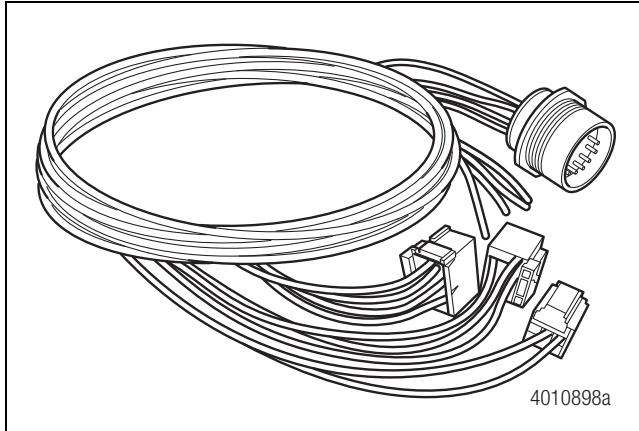
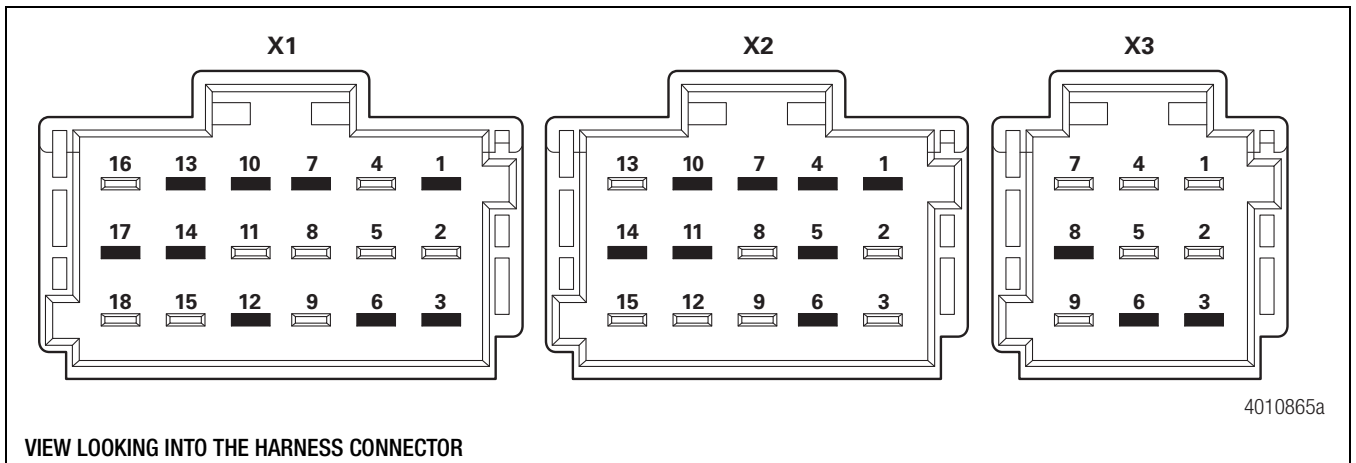
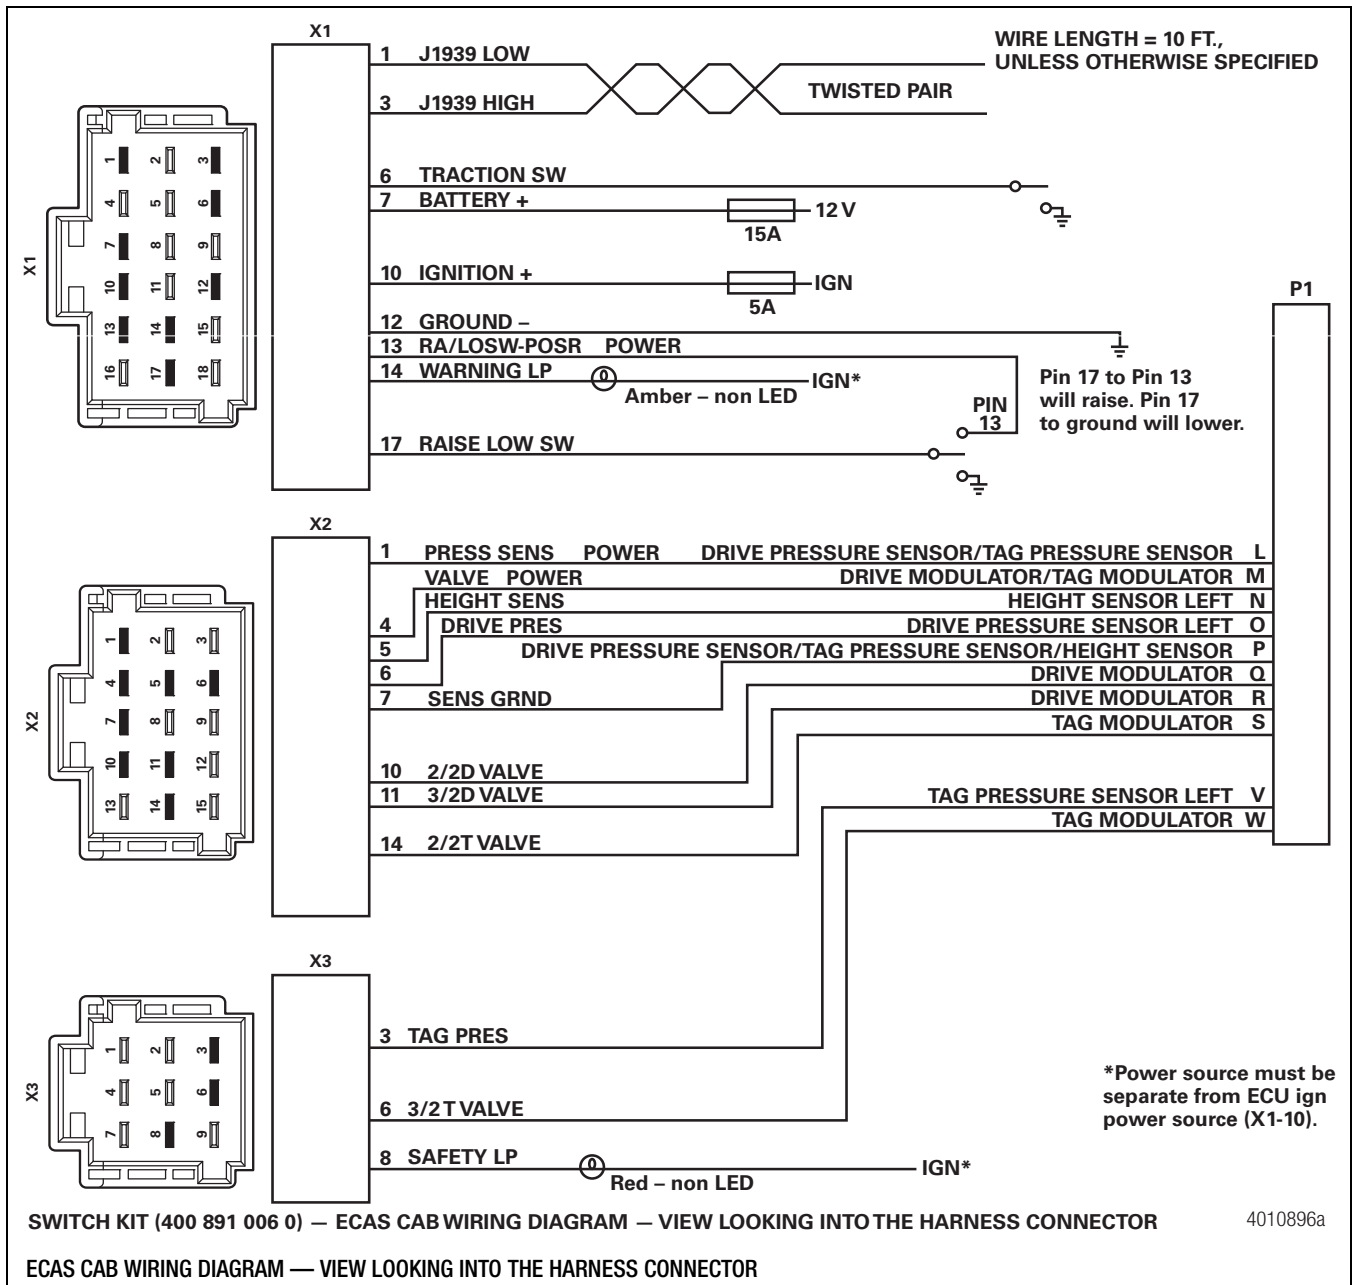

Figure 15
Figure 16
Figure 17
1. Untie the ECAS cab harness bundle (part number S400 850 916 0) and stretch it out on the floor. Note that one end has a 23-pin male Deutsch connector. The other has three separate pre-pinned ECU connectors and a blunt cut wiring section. Figure 15. Refer to Figure 16 for pin locations. For a wiring diagram, refer to Figure 17.